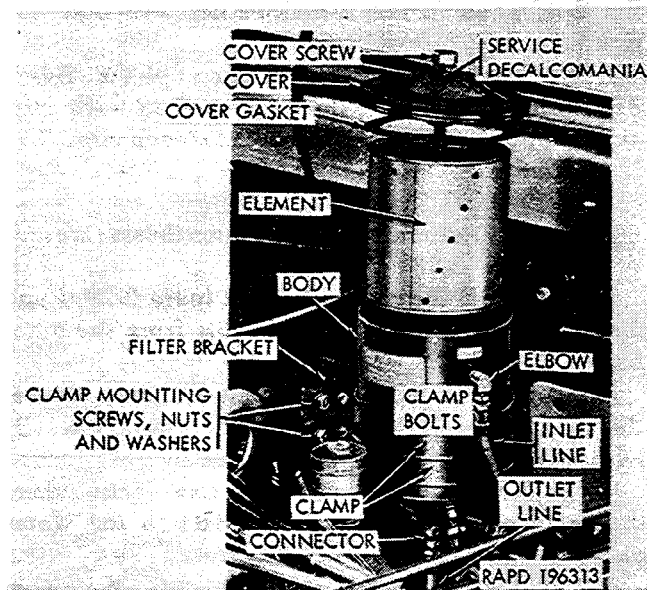

Figure 2-88. Replacing oil filter element.
a. Remove Oil Filter Element (fig. 2-88).
(3) Clean the inside of the filter body and the cover with drycleaning solvent or volatile mineral spirits and wipe with a clean cloth.
b. Install Oil Filter Element (fig. 2-88).
(1) Install the pipe plug in the drain opening of the filter body.
(2) Install a new filter element in the body.
- (1) Inspect oil filter body for leaks and damaged threaded surfaces. Replace a damaged oil filter.
- (2) Inspect the elbow (inlet line) and the connector (outlet line) for damaged threads or cracks. Replace damaged fittings.
e. Install Oil Filter, Oil Line Fittings and Filter Clamps (fig. 2-88).
- (1) If the filter inlet and outlet lines were removed, install lines (*h* below).
- (2) Install filter clamp (or clamps) on the oil filter body. For the Fram filter, install a clamp bolt through each clamp and install a nut on each bolt. For the Purolator filter, install a clamp bolt and nut in the manner described above.
- (3) Install the inverted flared tube connector in the filter body outlet opening.
- (4) Install the inverted flared tube elbow in the inlet opening of the filter body.
- (5) Install the pipe plug in the filter body drain opening.
- (6) Install a washer on each of the four clamp mounting bolts. Position the oil filter and clamp (or clamps) on the filter bracket and install the four clamp mounting screws, lockwashers, and nuts. Do not tighten the nuts.
- (7) Position the filter so that clearance exists between the bottom of the filter and the filter bracket. Tighten each clamp bolt. Tighten the nuts on the four clamp mounting screws.
- (8) Connect the outlet line to the connector in the bottom of the filter body.
- (9) Connect the inlet line to the elbow.
(10) Replenish the engine oil. Refer to lubrication order (LO 9-2320-212-12).